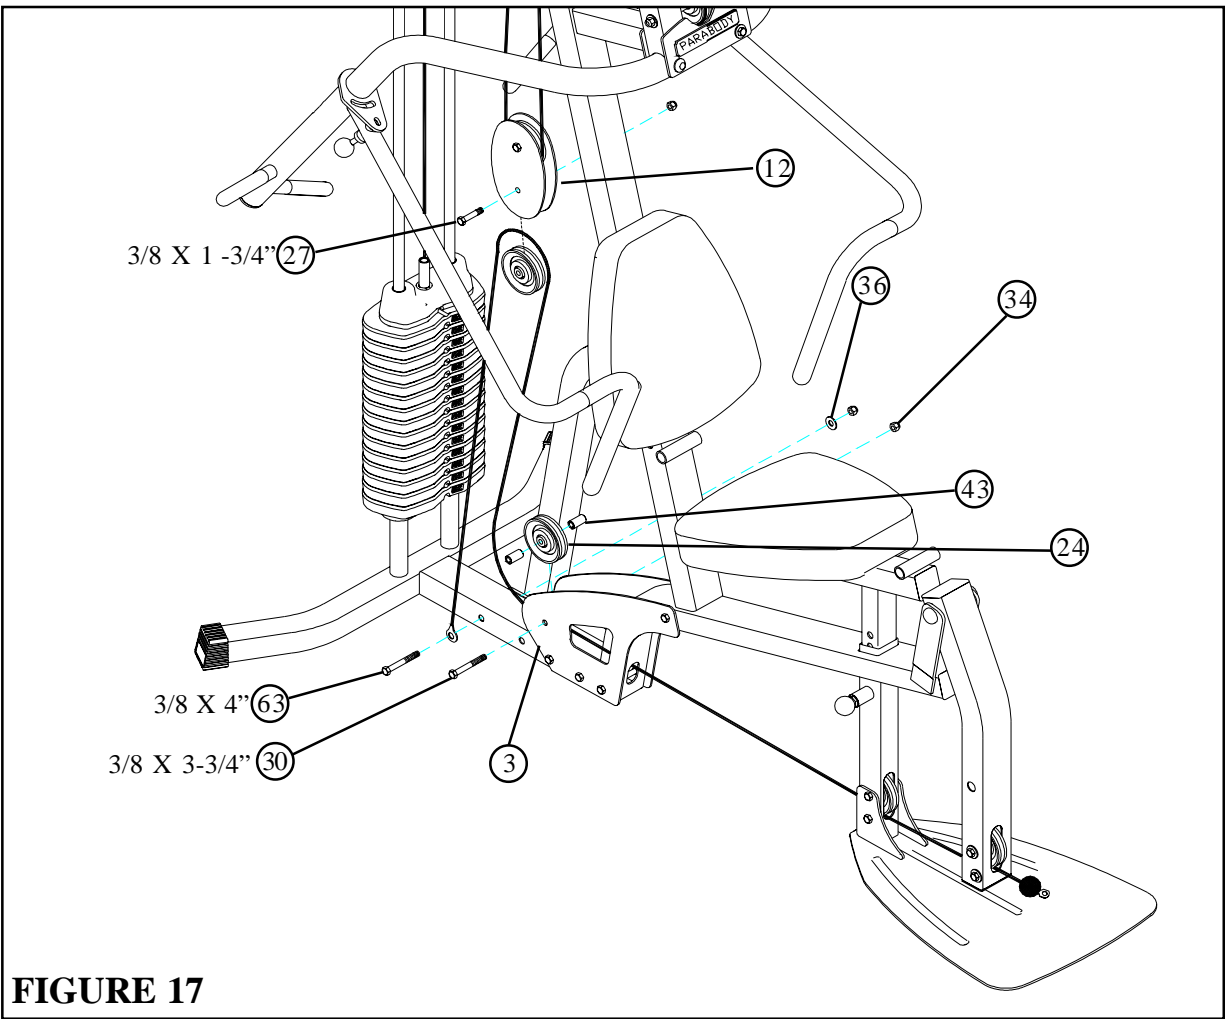

**FIGURE 16**
- [CABLE MUST BE POSITIONED BETWEEN PULLEY AND LOWER BOLT ASSEMBLY ON LEG PEDESTAL (11) AND FRAME (1)]
- Securely assemble the ball end of the LOW CABLE (21) and one 3-1/2” PULLEY (24) to the LEG PEDESTAL (11) using two 3/8 X 3-3/4” BOLTS (30), two 3/8” X 1-1/16” FLANGE SPACERS (42), two 3/8” WASHERS (36), and two 3/8” LOCKNUTS (34). (NOTE: The LEG CABLE (21) should be routed over the retaining bolt as shown in FIGURE 16.)
- Securely assemble one 3-1/2” PULLEY (24) to the FRAME (1) using one 3/8 X 3” BOLTS (29), and one 3/8” LOCKNUT (34). (NOTE: The LEG CABLE (21) should be routed over the retaining bolt as shown in FIGURE 16.)
- Assemble one 3-1/2” PULLEY (24) between BASE PLATES (3) using one 3/8 X 3-3/4” BOLT (30), two 3/8 X 1” SPACERS (43), one 3/8” LOCK NUT (34) and tighten securely.
- Loosely assemble one 3-1/2” PULLEY (24) between the PULLEY PLATES (12) using one 3/8 X 1-3/4” BOLT (27), and one 3/8” LOCK NUT (34).